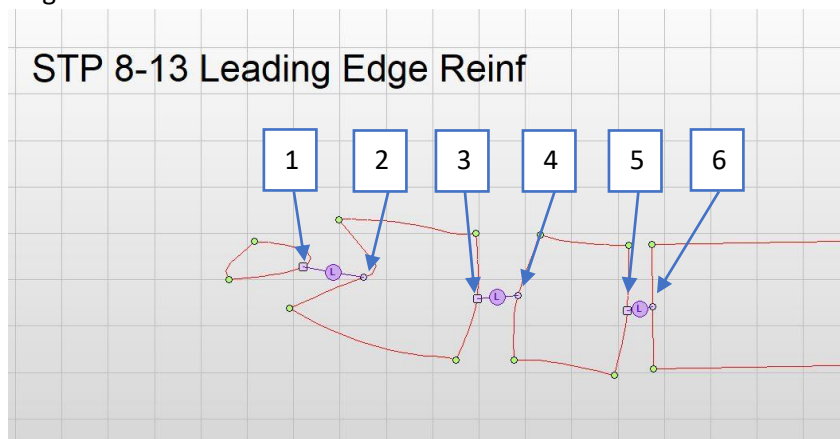

Figure 302
98. And link the segments of our Leading Edge Reinforcement MasterCuts. To get the same behavior later, when modifying the links, it makes sense to select the segments one after the other as emphasized in Figure 302.